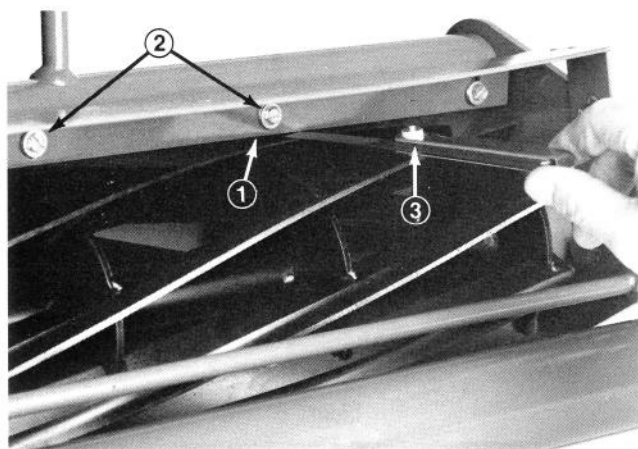

Figure 5
- Loosen screws securing top bar (Fig. 5). Insert 0.060 inch (1.5 mm) feeler gauge between top of reel and bar and tighten screws (Fig. 5). Assure bar and reel are equal distance apart across complete reel.